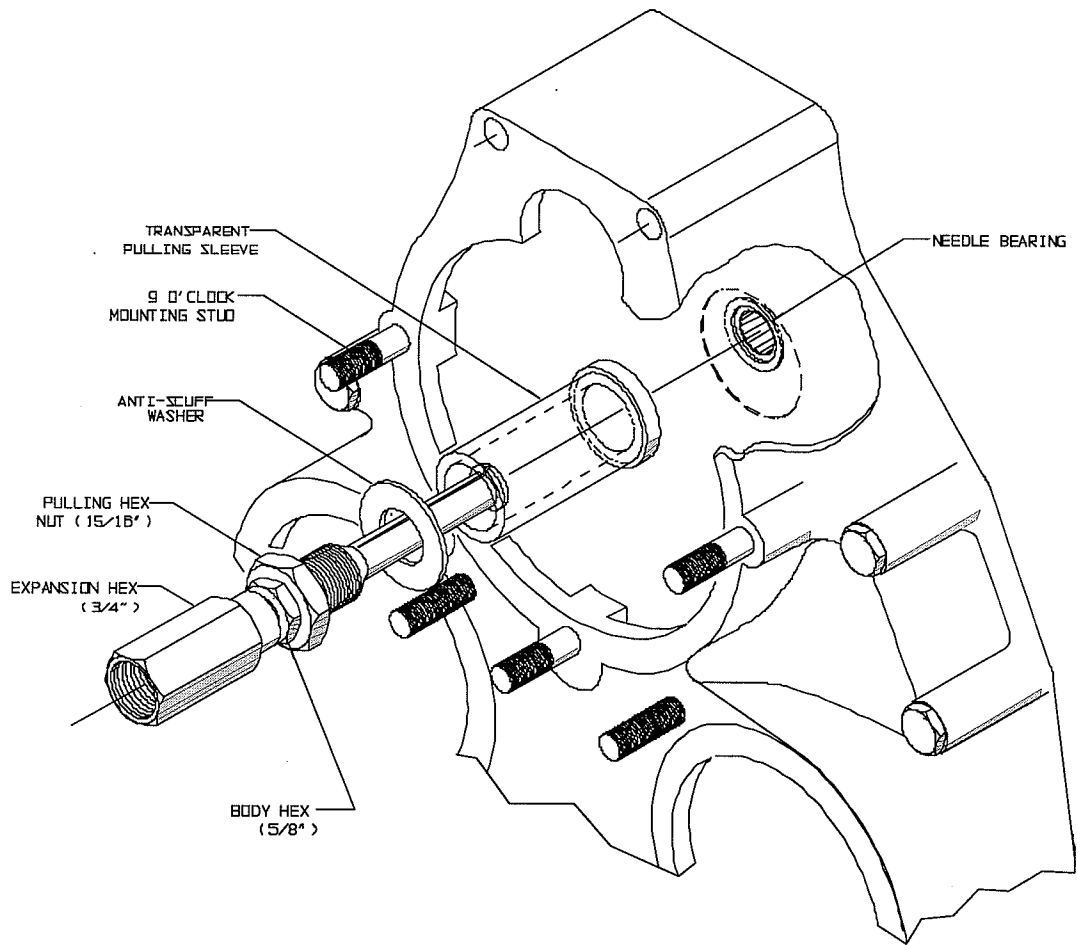

Figure 1. Removal of Pinion Shaft Bearing
- Step 1. Refer to Figure 1 for description of the 500-100-1 bearing puller. Retract the puller's expansion mandrel by holding body hex and backing off expansion hex. Rotate pulling hex nut to position closest to body hex.